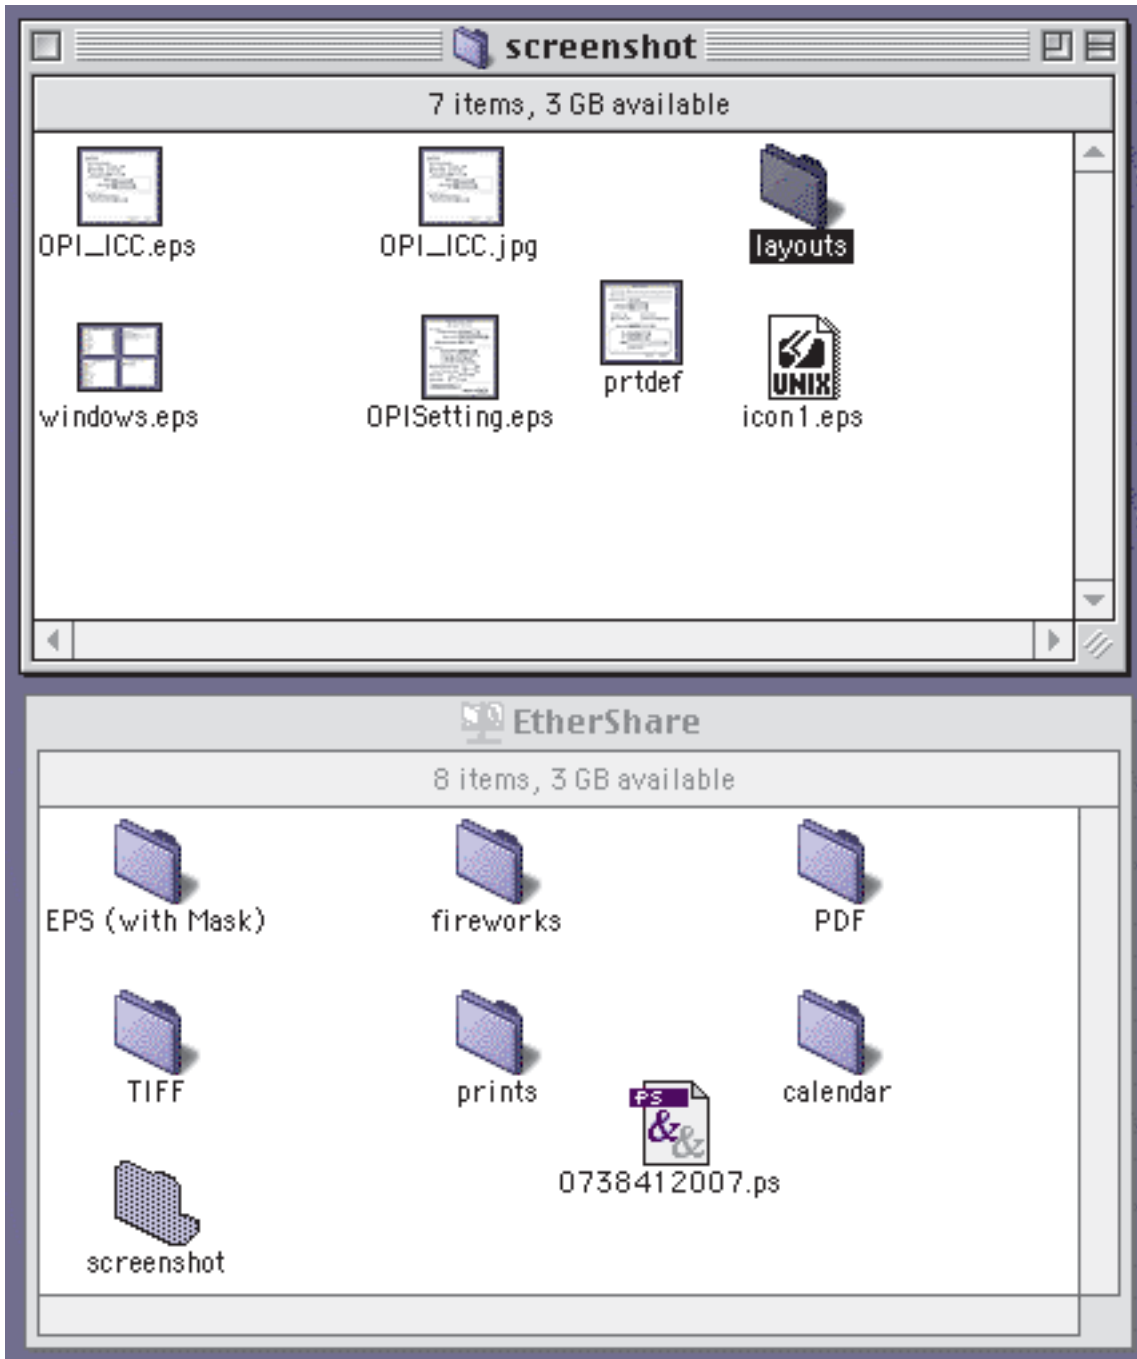

Figure 40. Sample shared directory and layout directory
4. Figure 40 on page 152 shows both the shared directory and the associated layout directory, where the OPI server will put a low resolution image for each image you place in the main shared folder.